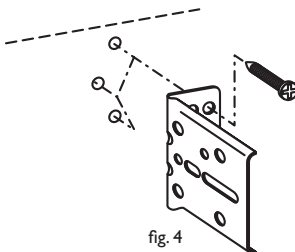

fig. 4
5. Once you have marked the position of the brackets drill holes, using the appropriate drill bit and using the appropriate wall plugs fix the brackets as shown in (Fig. 4).